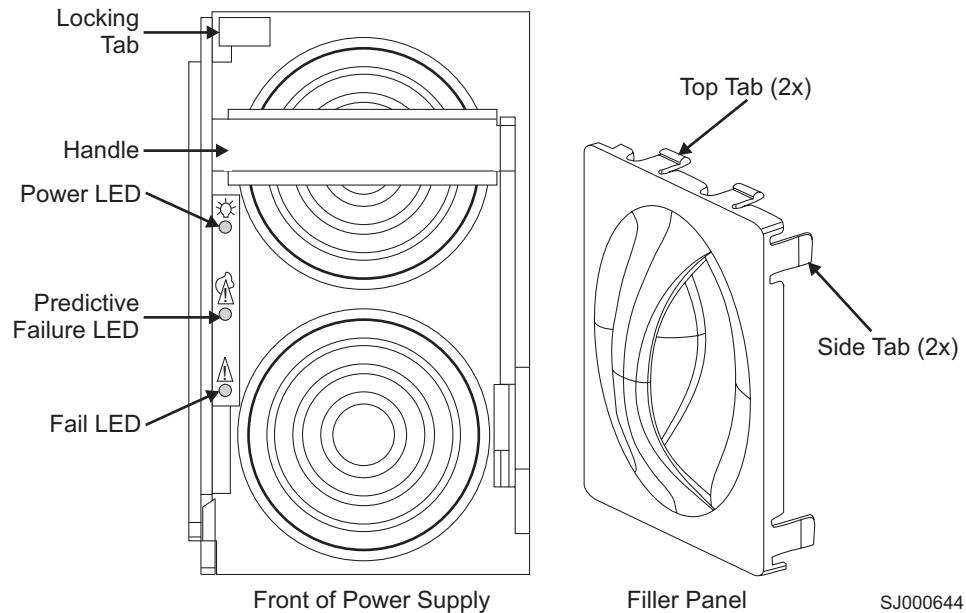

Figure 40. Power supply and filler panel
- a. Remove the power supply by pushing the locking tab in towards the power supply then pull the handle out and down, and use the handle to pull the power supply out of the chassis. See Figure 40 on page 77.